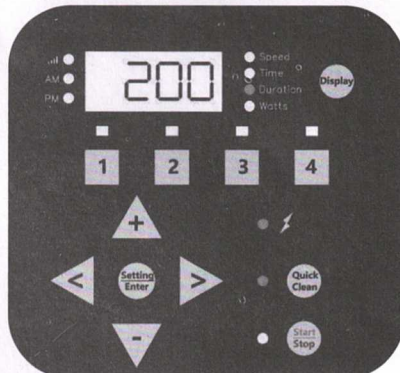

Figure 15
4. Press **Quick Clean**. The Quick Clean duration will display. The "Duration" parameter LED will blink while editing. See **Figure 15**.